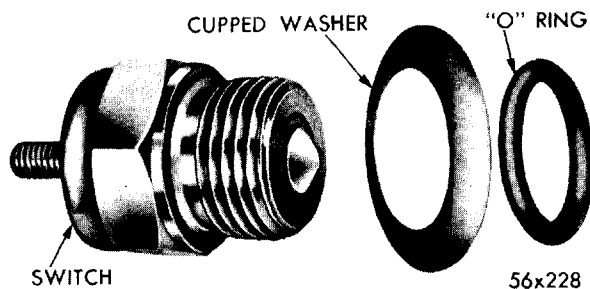

Fig. 13—Neutral Starting Switch and Seal
(8) Install the neutral starting switch as outlined in Paragraph 7. Refill transmission with automatic transmission fluid (Type "A" - Suffix "A") to proper level (Paragraph 2).
15. NEUTRAL STARTING SWITCH INSTALLING AND TESTING (Fig. 13)